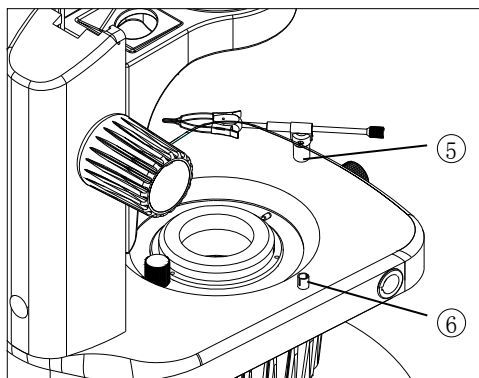

Fig. 2
2.2.3 Install stoneholder (Fig. 2)